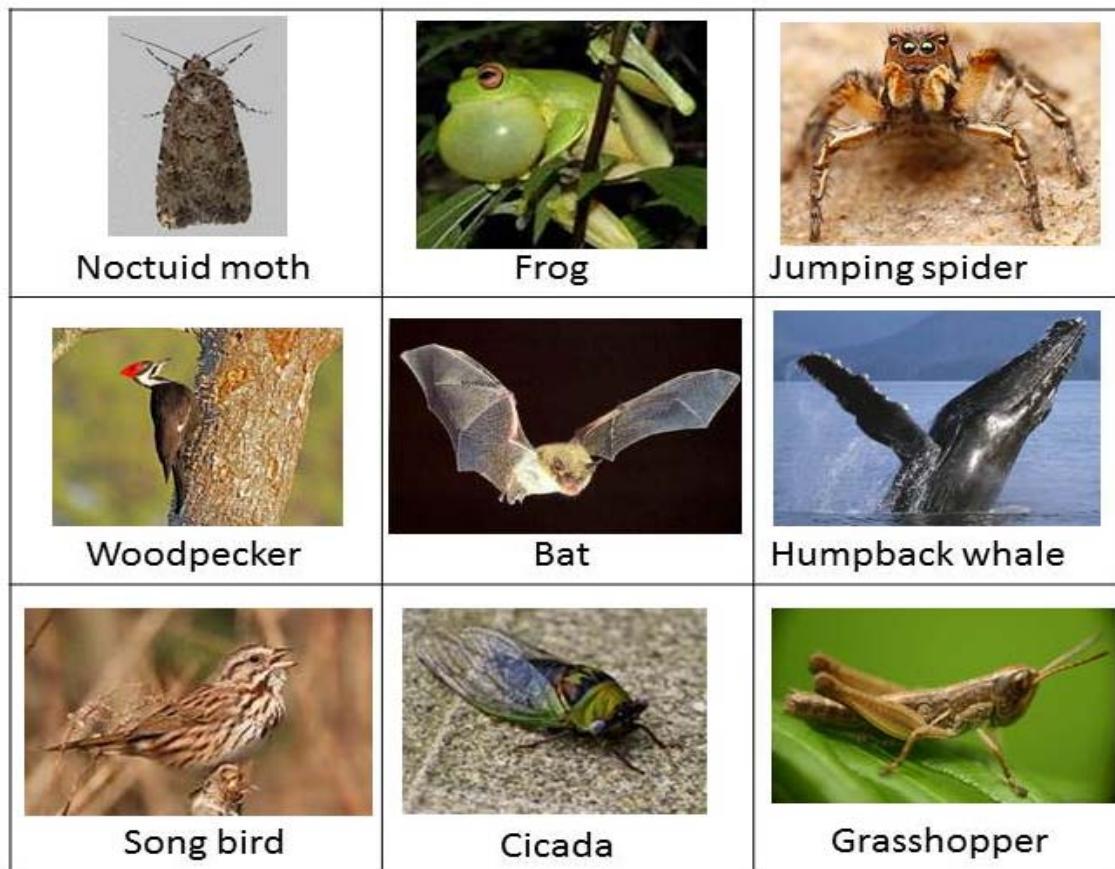

Figure 3. Examples of animals that use various forms of sound communication.
- Examine the pictures of animals on the following page in Figure 3. Think about what types of structures or behavior that these animals might use to make sounds in ways similar to the instruments that you have examined.
Jumping spiders, such as the male shown in Figure 3, have long been known for the highly visual courtship displays they make towards females. You may find links to these under the Tree of Life website (genus *Habronattus*)